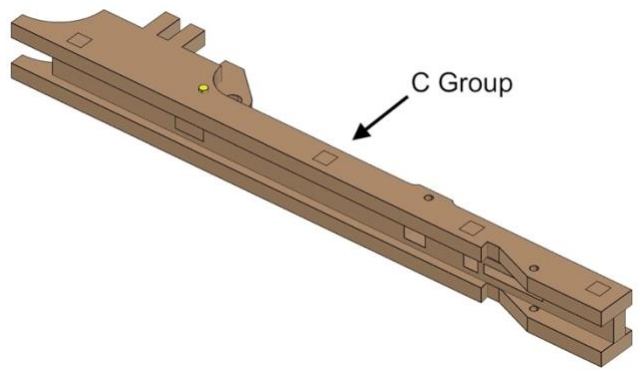

Fig. 8
- *Fig. 8* shows the completed process.